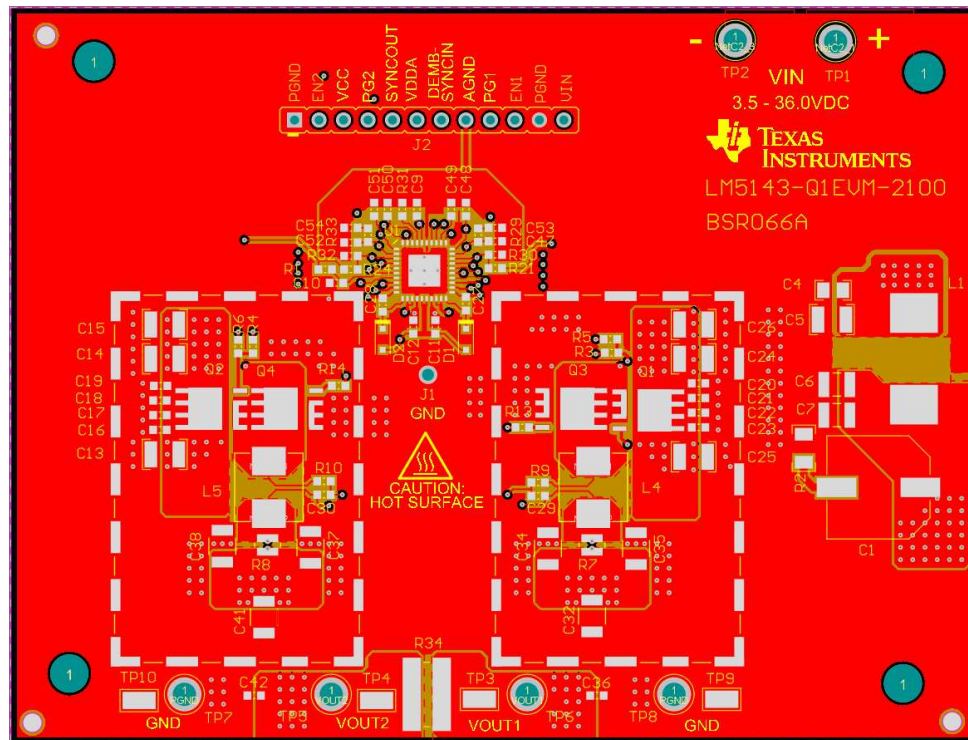

图 62. PCB Top Layer
- Make the ground connections to the LM5143-Q1 controller as shown in 图 62. Create a power ground directly connected to all high-power components and an analog ground plane for sensitive analog components. The analog ground plane for AGND and power ground planes for PGND1 and PGND2 must be connected at a single point directly under the IC – at the die attach pad (DAP).